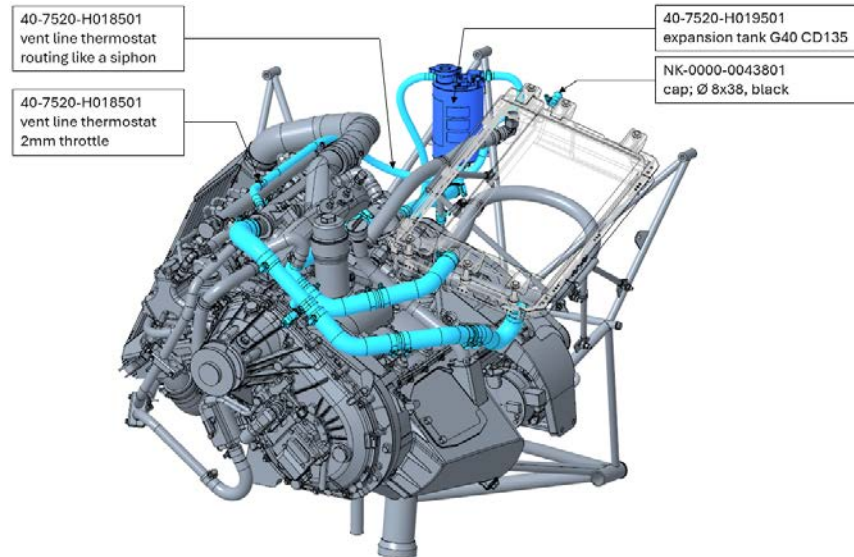

Figure 5: Overview TAE 125-02-99 installation
- b) Attach the vent line (item 1) to the thermostat using a clamp (item 3). The throttle, integrated in the vent line, must be located on thermostat side and the arrow labelled on the vent line must point towards the expansion tank. Refer to figure 5.
- c) Route the thermostat vent line towards the expansion tank while ensuring a U-shaped layout (*lowest point below the expansion tank bottom*). Refer to figure 5. Attach the thermostat vent line to the angled connection of the expansion tank using a clamp (item 3).
- d) Close the vent line connection of the main radiator using the cap (item 4) and a clamp (item 3).
- e) Finally, reconnect the lower coolant hose using a clamp (item 5) as well as the bleeder hose and the sensor wire.